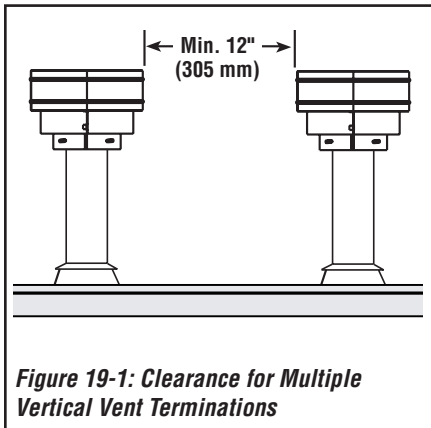

Figure 19-1: Clearance for Multiple Vertical Vent Terminations
- Terminate multiple vertical vents according to the installation codes listed above. Also see **Figure 19-1**.